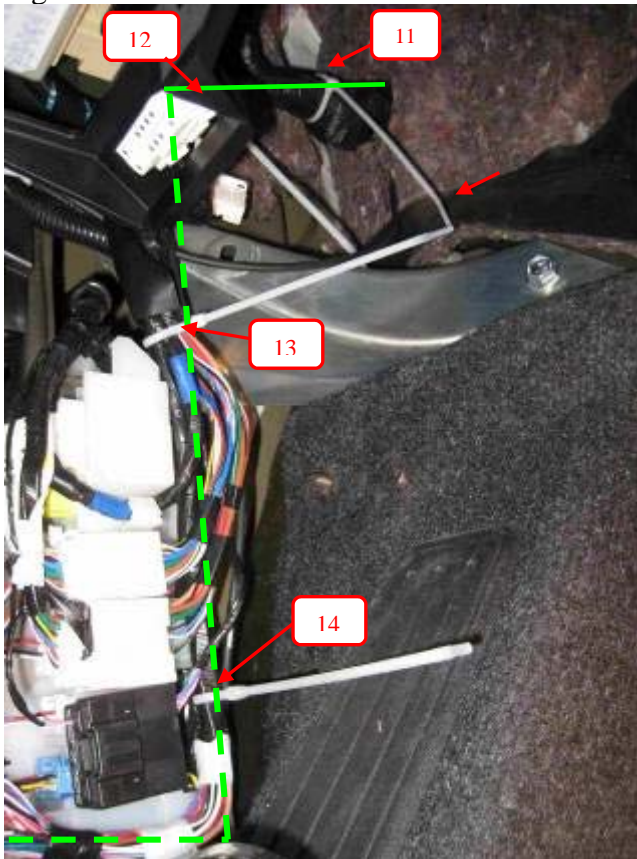

Figure 2-11
- a) Follow vehicle wire harness and secure the trailer power wire every 150mm (6 inches) as shown (Figure 2-11).